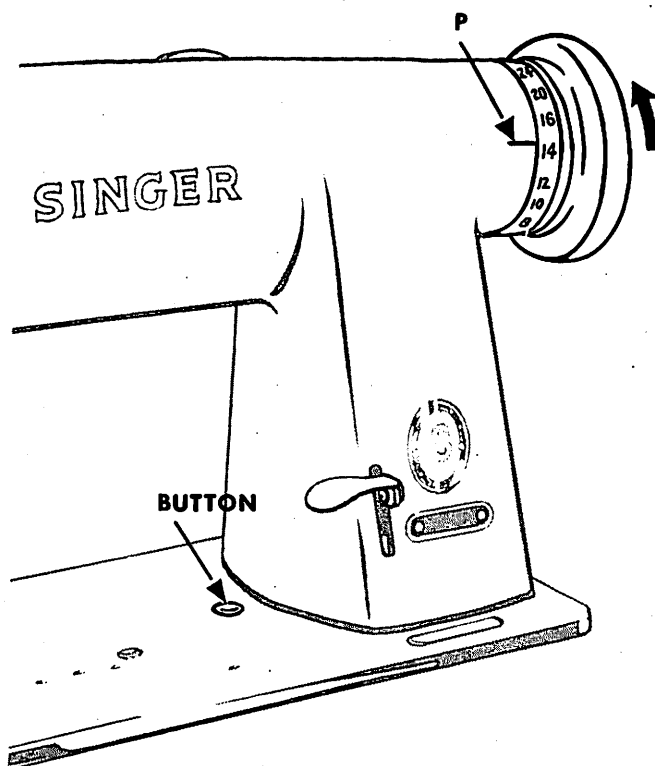

Fig. 27. Regulating Stitch Length
- Depress button in machine bed as instructed in Fig. 27 and
- Then turn machine pulley, until number indicating desired stitch length is opposite mark P, Fig. 27 on arm, and release button.